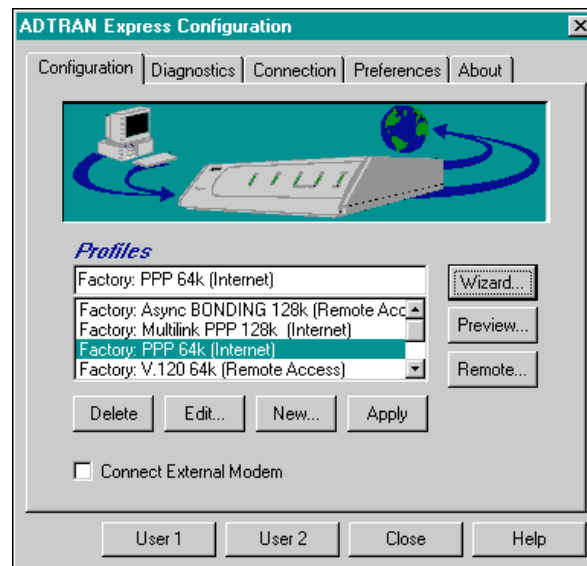

Figure 2-7
7. If you want to set up the options yourself, select **No**. The screen shown in Figure 2-7 on page 17 displays. Go to step 8.